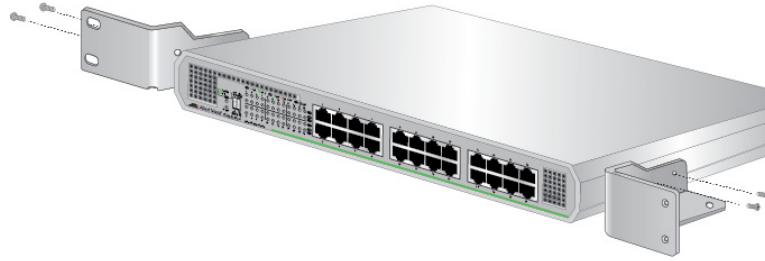

Figure 21. Attaching the Brackets to the AT-GS910/24 Switch
4. Orient the brackets against the sides of the switch and secure them to the switch with the four screws as shown in Figure 21.